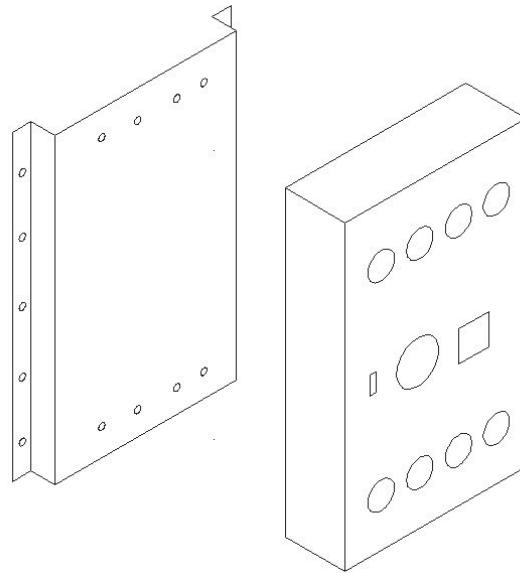

Fig. 2.11
1) Install the control box onto to wall panel near the generator shown in Fig.2.11, and install the installation panel onto the wall with nail, then install the control box on to the panel.